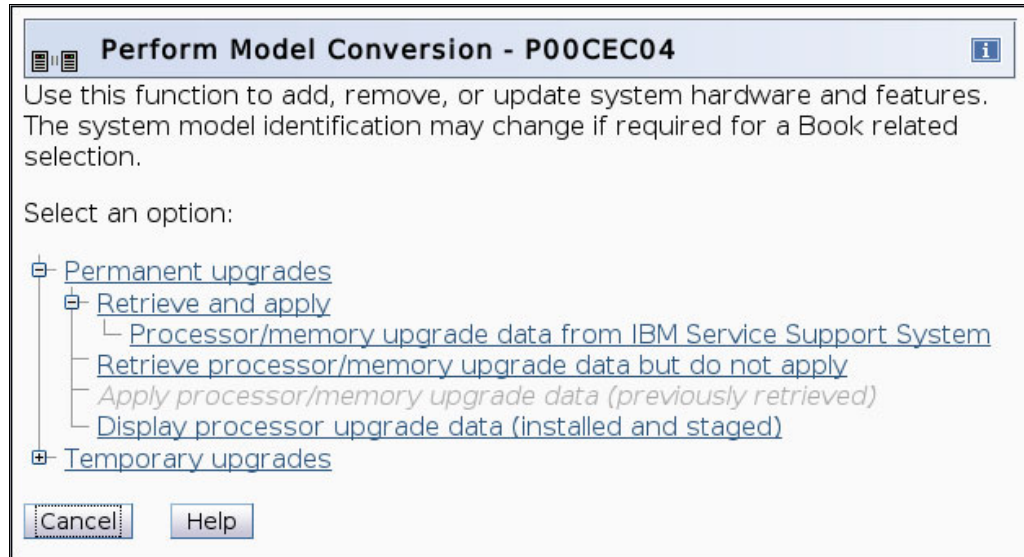

Figure 8-10 IBM z13s Perform Model Conversion window
1. In the Perform Model Conversion window, select **Permanent upgrades** to start the process, as shown in Figure 8-10.